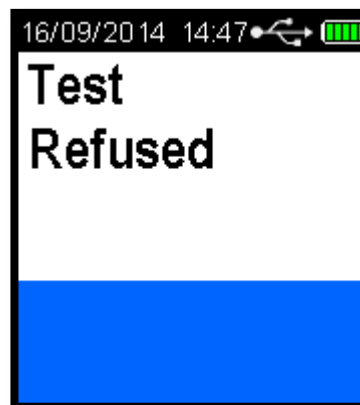

Figure 25 Test Refused Displayed
- Press the Test Key. The instrument will beep rapidly for one second and Test Refused will be displayed flashing momentarily (Refer Figure 25). The screen will then return to the press to test display. The test refusal will be recorded in Records.